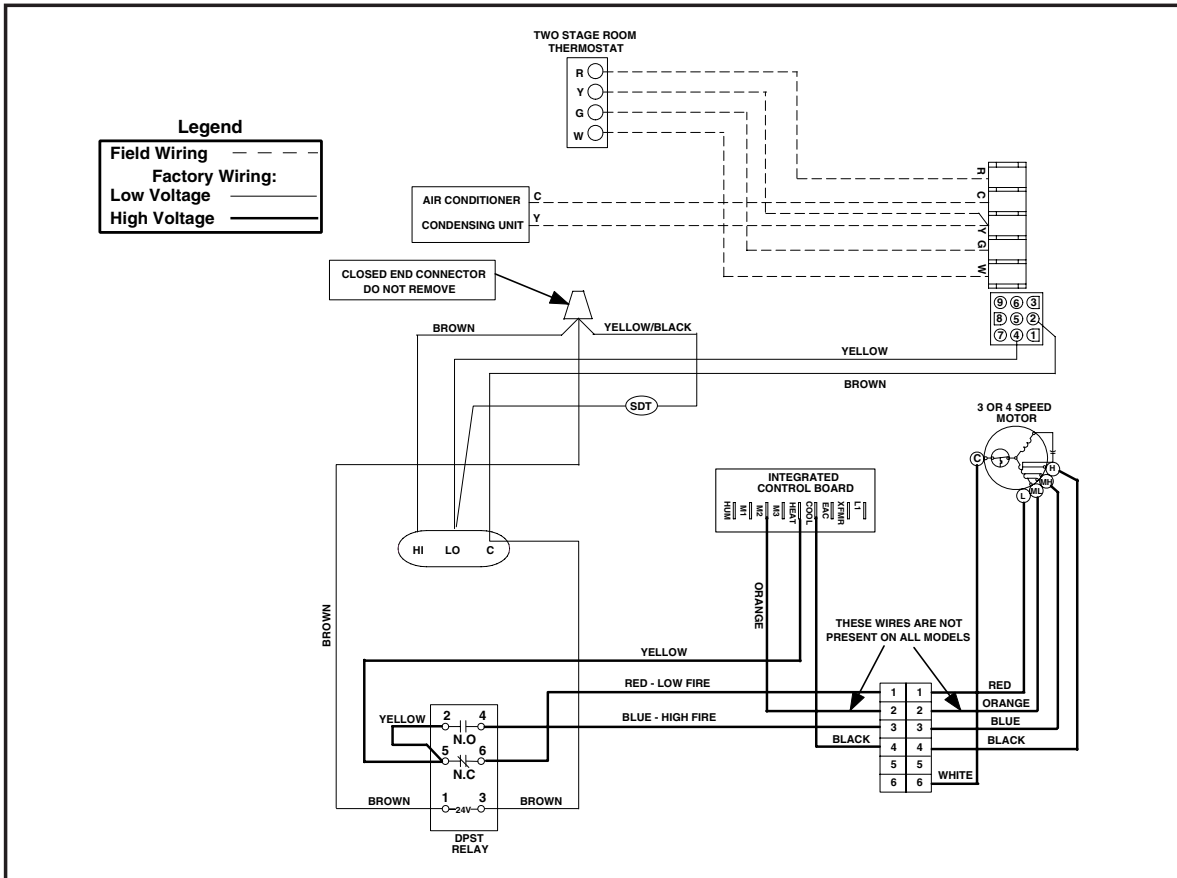

Figure 32. Timed Two Stage Configuration
5. *Timed staging configuration* – For this installation, the low and high on the gas valve are connected in parallel with a delay on make timer (two wire style) in series with the low fire gas valve (See Figure 32). **CAUTION: DO NOT CONNECT W2** from thermostat to the furnace wiring when using timed stage configuration. When the low fire on the gas valve is energized, the furnace operates in the low fire mode at a lower blower speed and the timer begins its delay function. If the room thermostat is not satisfied before the timer activates, the furnace will stage to high fire and the blower will operate at a higher speed until the room thermostat is satisfied.